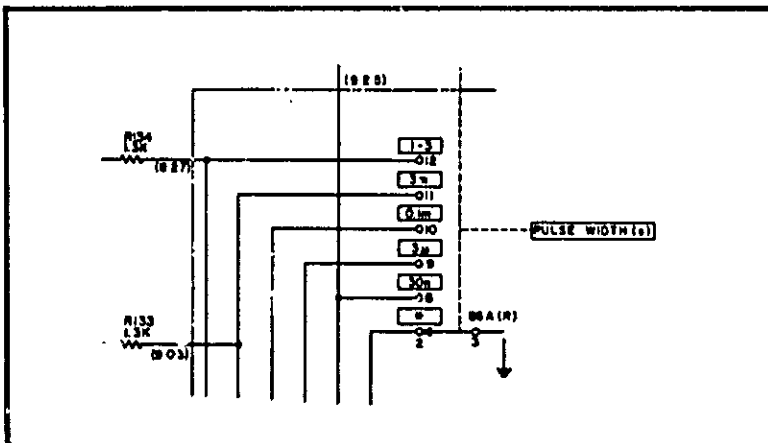

Figure A2-5. S6 A (R) Terminal Connections
Change terminal connections for wafer S6 A (R) of the Pulse Width Switch as shown in Figure A2-5.